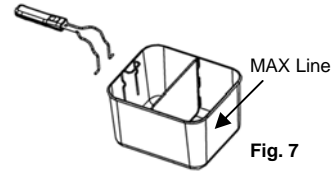

Fig. 7
- Do not fill the baskets higher than the **MAX** line on the basket with frozen food. (Fig. 7)